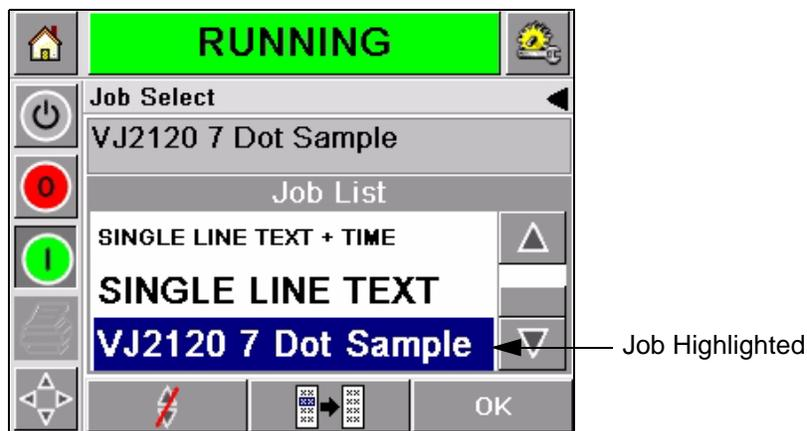
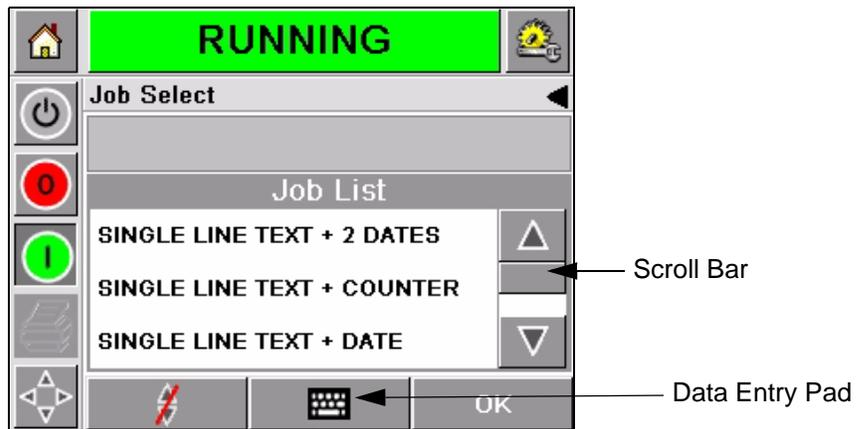

Figure 5-3: Job Selection
Figure 5-4: Scroll Bar
- 2 If the job list is short, then touch the job name and the name of the job is highlighted (Figure 5-3).
- A scroll bar appears (Figure 5-4 on page 5-7). The scroll bar helps you move up and down the database to see all the jobs and select the required job.
- Touch the *Data Entry Pad* icon (Figure 5-4 on page 5-7). The *Job Select* page appears with a data entry keypad (like a mobile phone). The job name is completed automatically as you begin to enter the characters in the job name until you select the required job (Figure 5-3 on page 5-6).